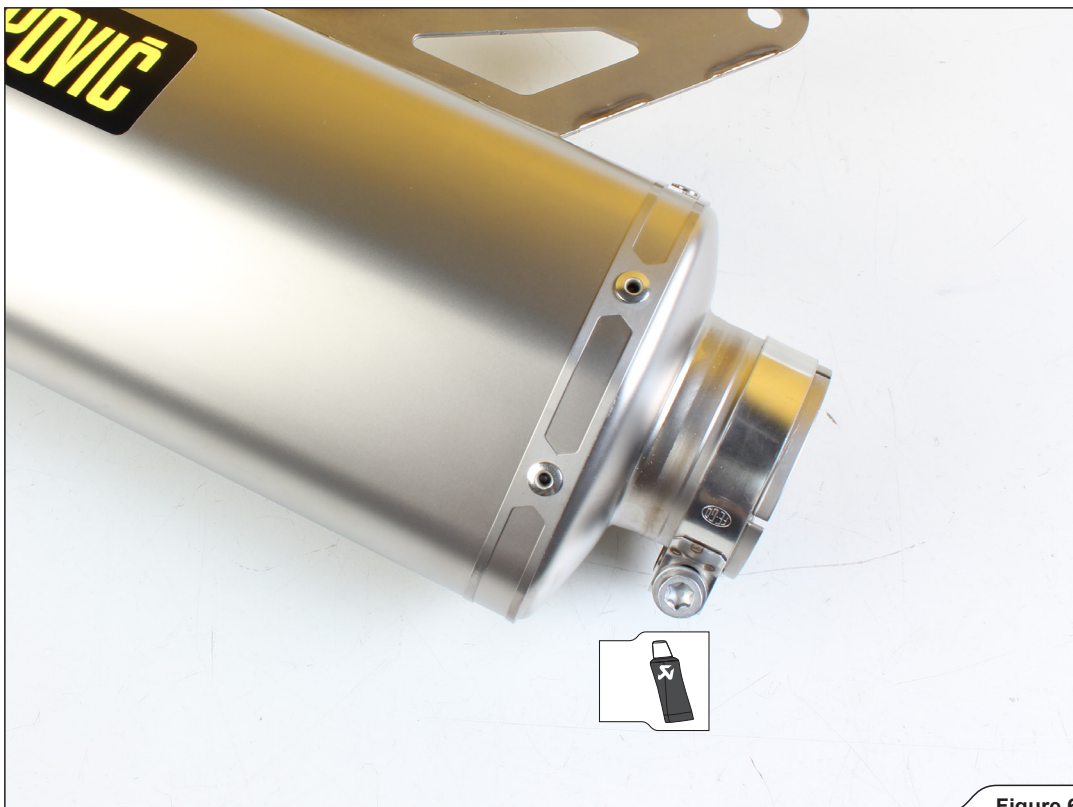

Figure 6
3. Assemble the clamp from Akrapović installation kit onto the muffler's inlet, as shown (**Figure 6**).